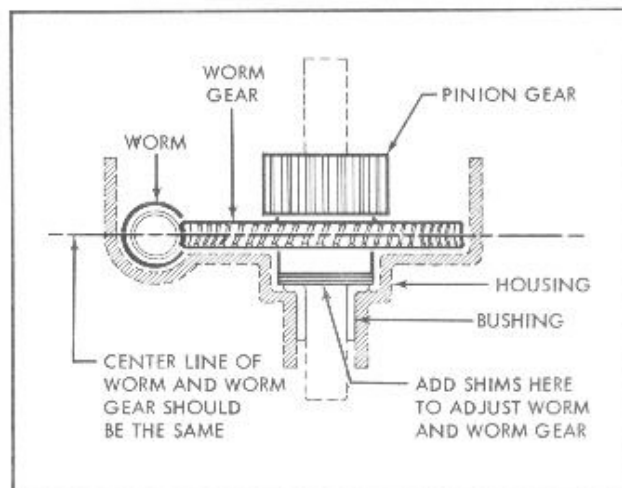
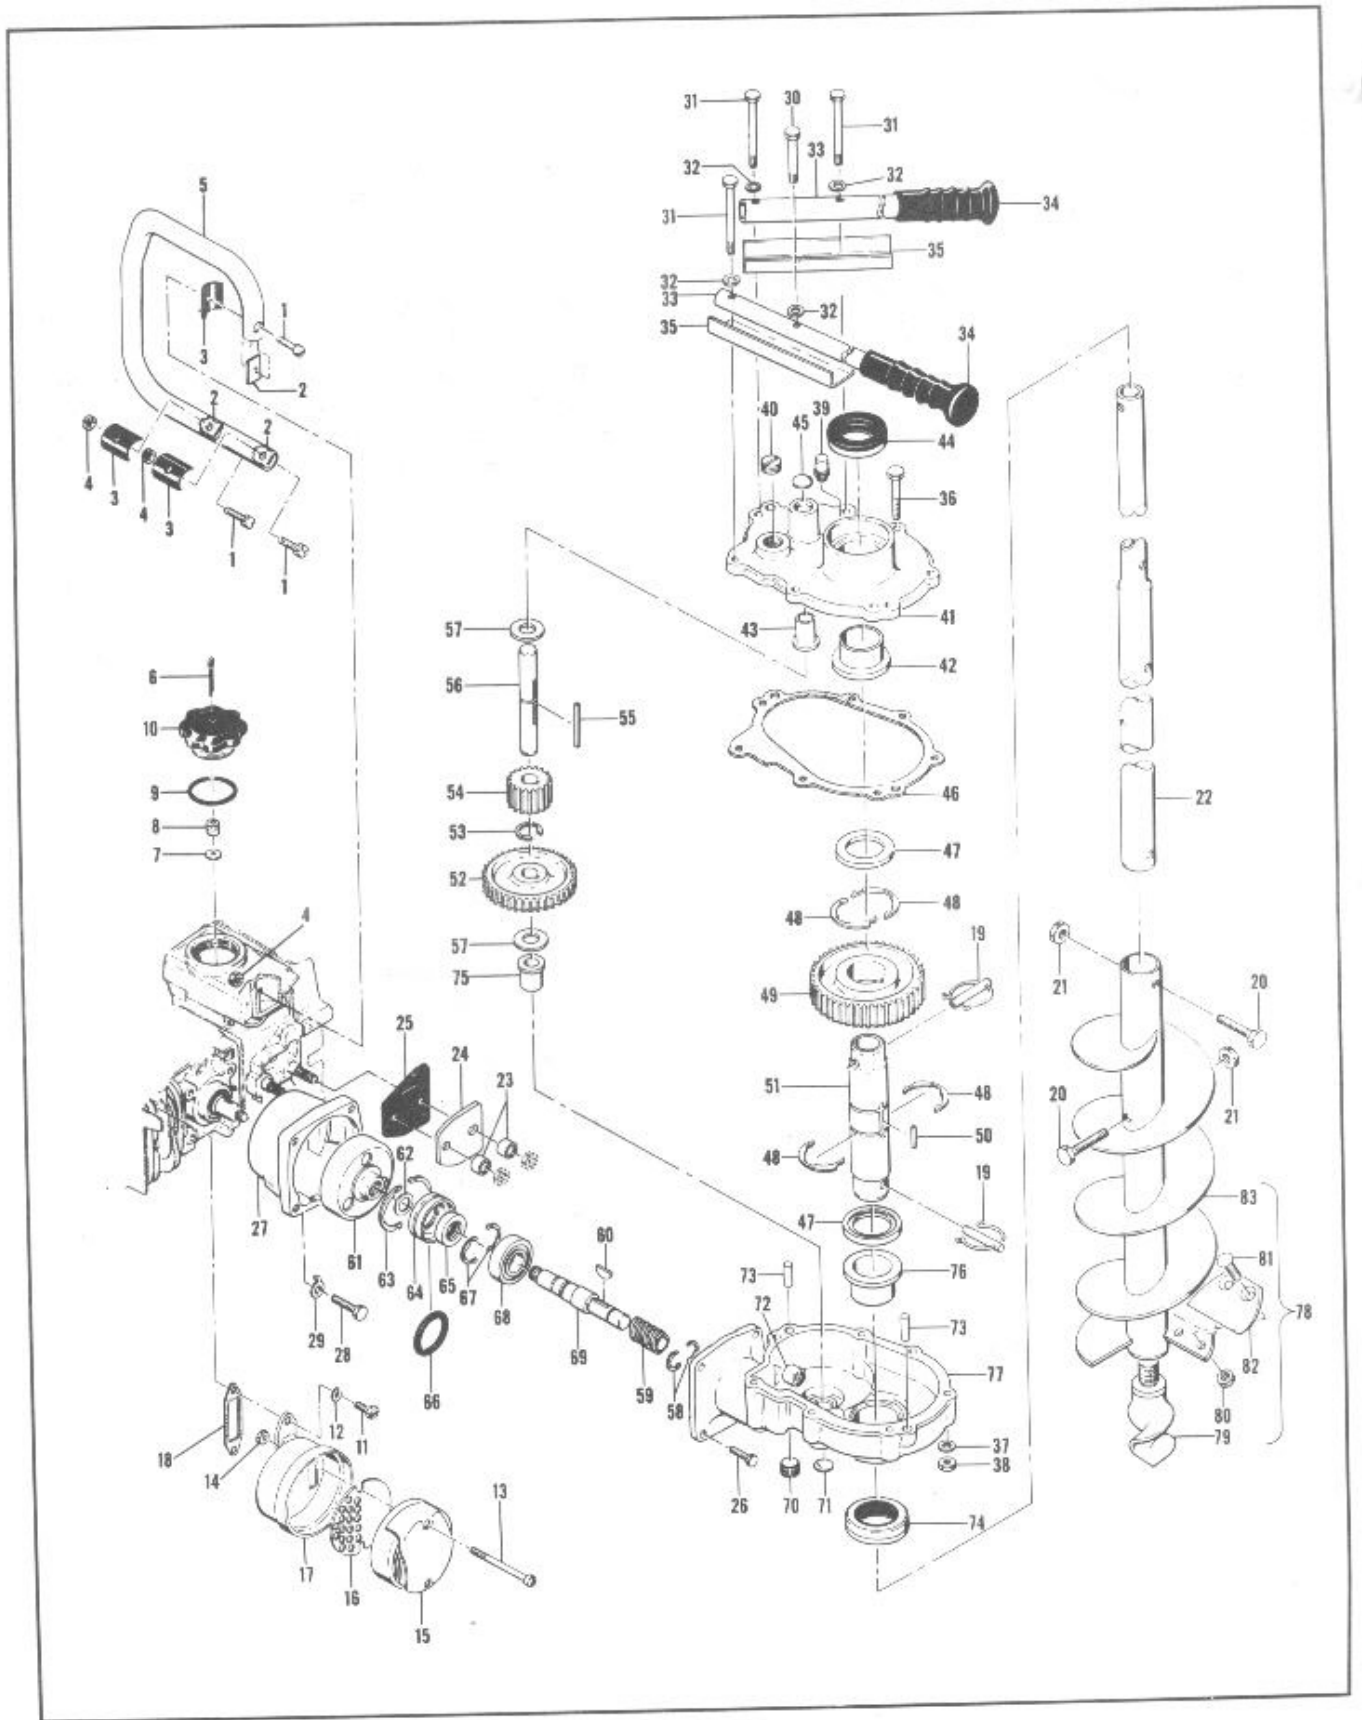

Figure 11. Gear Alignment
Figure 14. Earthdrill Attachment and Auger Assemblies
Six and nine-inch diameter augers are available from your McCulloch Dealer. Repair parts for the earthdrill and the augers are shown in figure 14. The augers can be mounted close to the gear housing when drilling shallower holes or in an extended position for digging deeper ones.
After each 500 hours of operation, remove the gear housing cover and lift the output shaft out of the gear housing. Check the position of the worm gear in relation to the worm. They should mesh as shown in figure 11. If they do not, raise or lower the worm gear by adding or removing shims (item 56, figure 14) from between the worm gear and the bushing in the bottom of the gear housing.